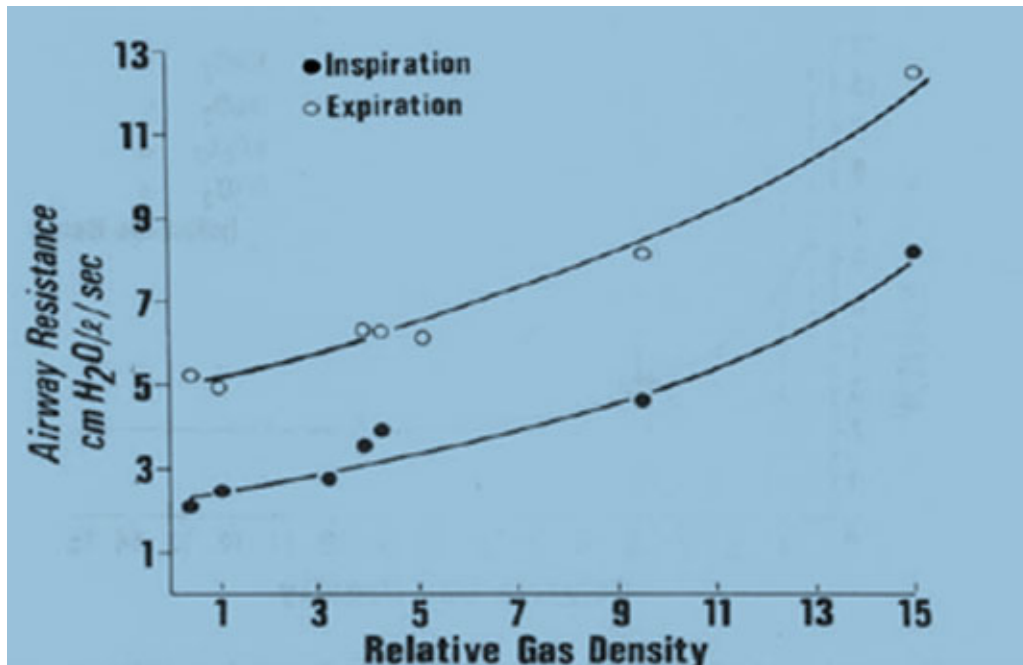

Figure 2. Mean values of inspiratory and expiratory airway resistance as a function of gas density during voluntary hyperventilation. (Data from Vorosmarti8)
Families of pressure-flow curves at different lung volumes were constructed for inspiration of gases at high densities varying from 1.29-10.1 g/l, corresponding to 1, 2, 4, 6 and 7.8 ATA breathing air. They showed that inspiratory flow is reduced as gas density increased and remained effort dependent. However, a degree of effort independent inspiration was observed in curves at below 40% VC especially at 7.8 ATA. This was attributed to the larynx acting as fixed dimensional flow restrictor especially at high ambient pressures (2). Vorosmarti et al. (8) noted that resistance during inspiration is typically lower than it is during expiration (Figure 2). Other studies (1) observed a significant reduction in gas flows during inspiration during maximal exercise at a gas density of 7.74 g/l. Based on them, this was caused because of the reduction of the inspiratory driving force at higher lung volumes.